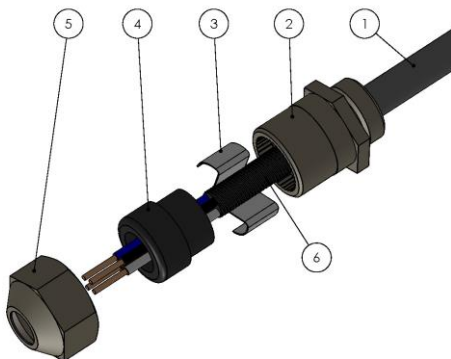
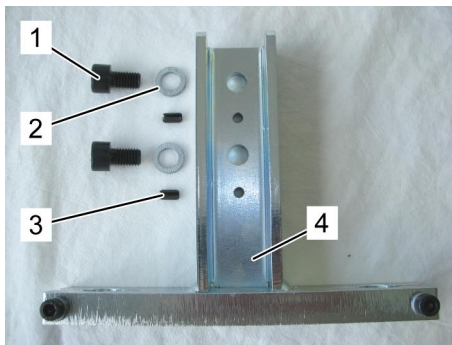

Fig. 27: Assembly of a cable gland
Fig. 30: Profile type sensor bracket
6. Assemble the cable gland according to Fig. 27.
The spring of the cable gland (Fig. 27/3) has to lie on the naked screen (Fig. 30/6) of the cable. For assembly compress the spring (Fig. 27/3) slightly and insert in cable gland casing (Fig. 27/2)
1. Attach two Nord-Lock® discs (Fig. 30/2) on every bolt M8, M10 or M12 (Fig. 30/1).